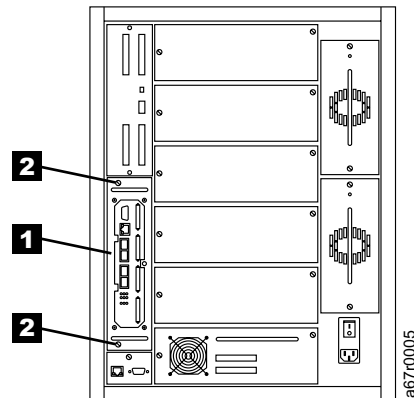

Figure 8. Gateway seated in a tape library
- Table 8 and Figure 8 provide the steps to install the Gateway.